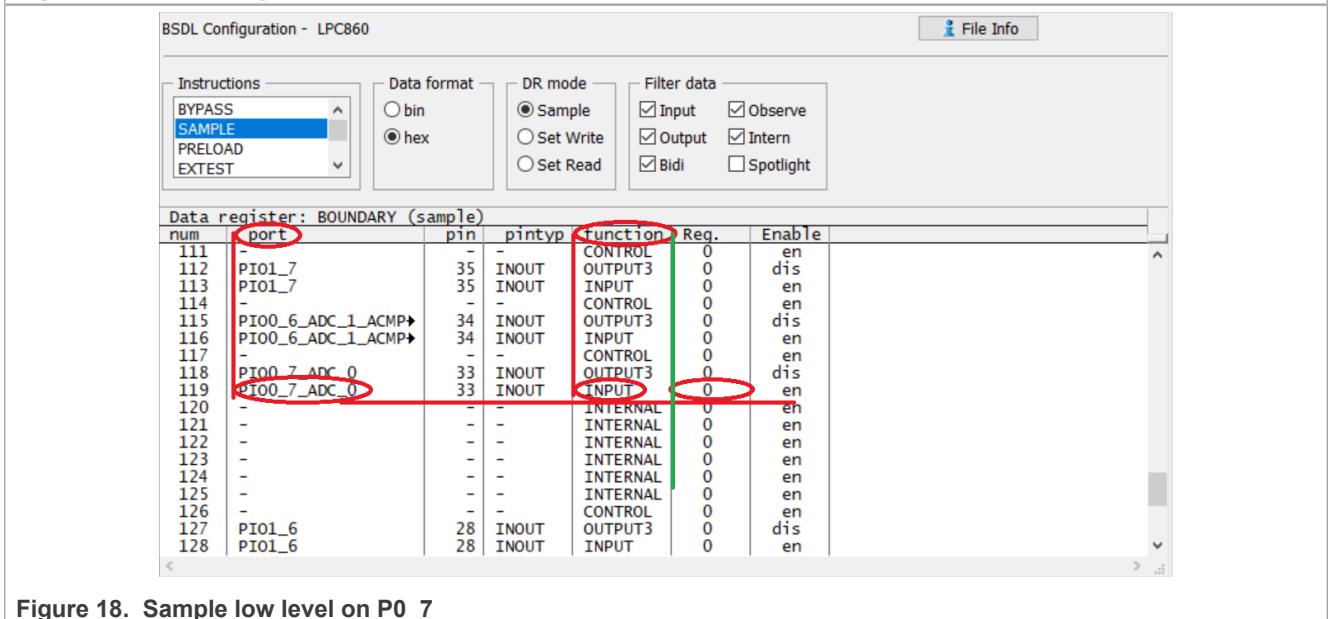

Figure 18. Sample low level on P0_7
- b. Apply low level to this pin. Check the sample result and it is 0, as shown in Figure 18.